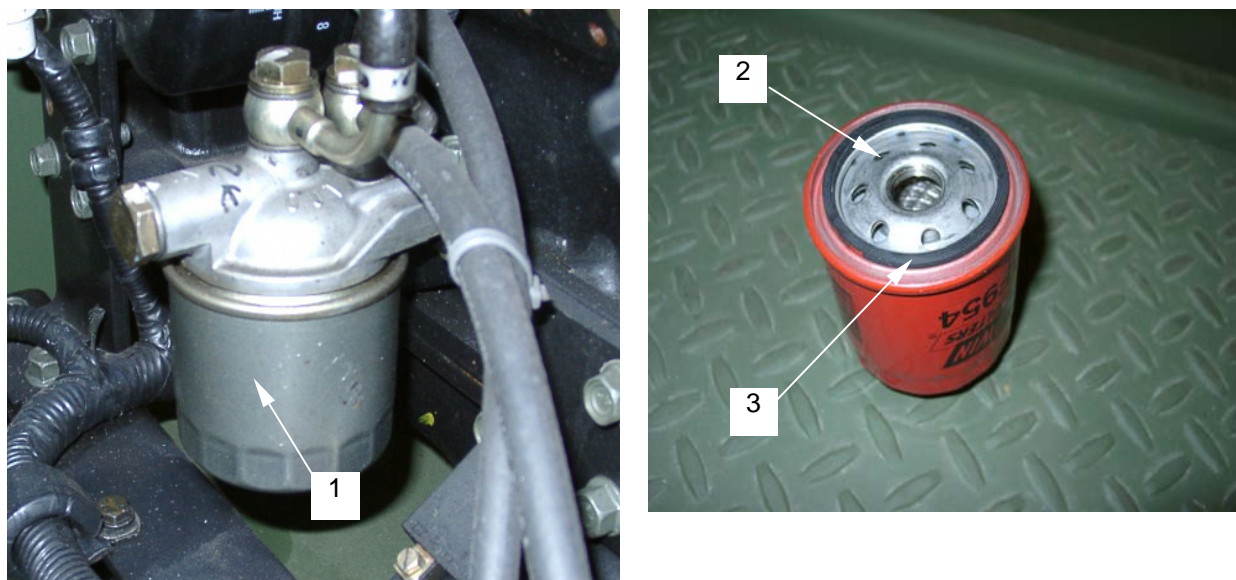

Figure 26. Fuel Filter
- a. Loosen and remove fuel filter (**figure 26, item 1**).
- c. Wipe fuel filter fitting face (**figure 26, item 2**) clean with a rag to allow the new filter to seat correctly.
- d. Apply a light coat of engine oil to the fuel filter o-ring (**figure 26, item 3**).
- f. Install new fuel filter (**figure 26, item 1**).